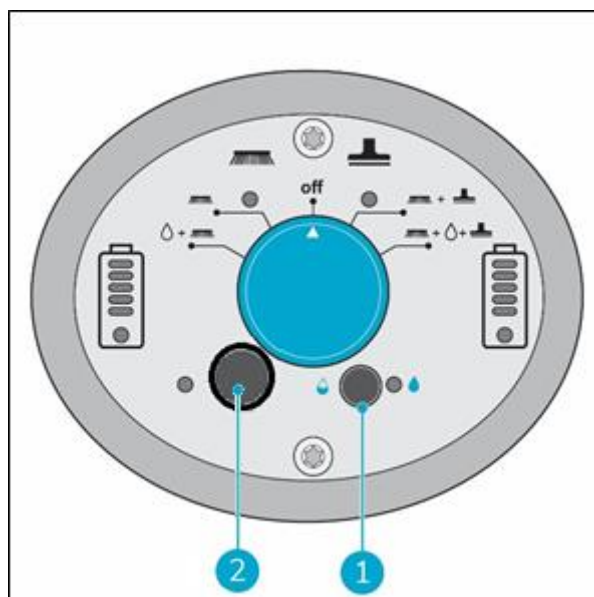

Figure 19
1. Turn on the ECO mode by pushing the ECO button, after you have selected your cleaning mode. (Figure 19, pos 1).
3. To adjust water flow when ECO mode is activated, you can remove the rubber cap (Figure 19, pos 2) and use a small flathead screwdriver to change the flow rate on the dial below the cap. See flow rate table below.